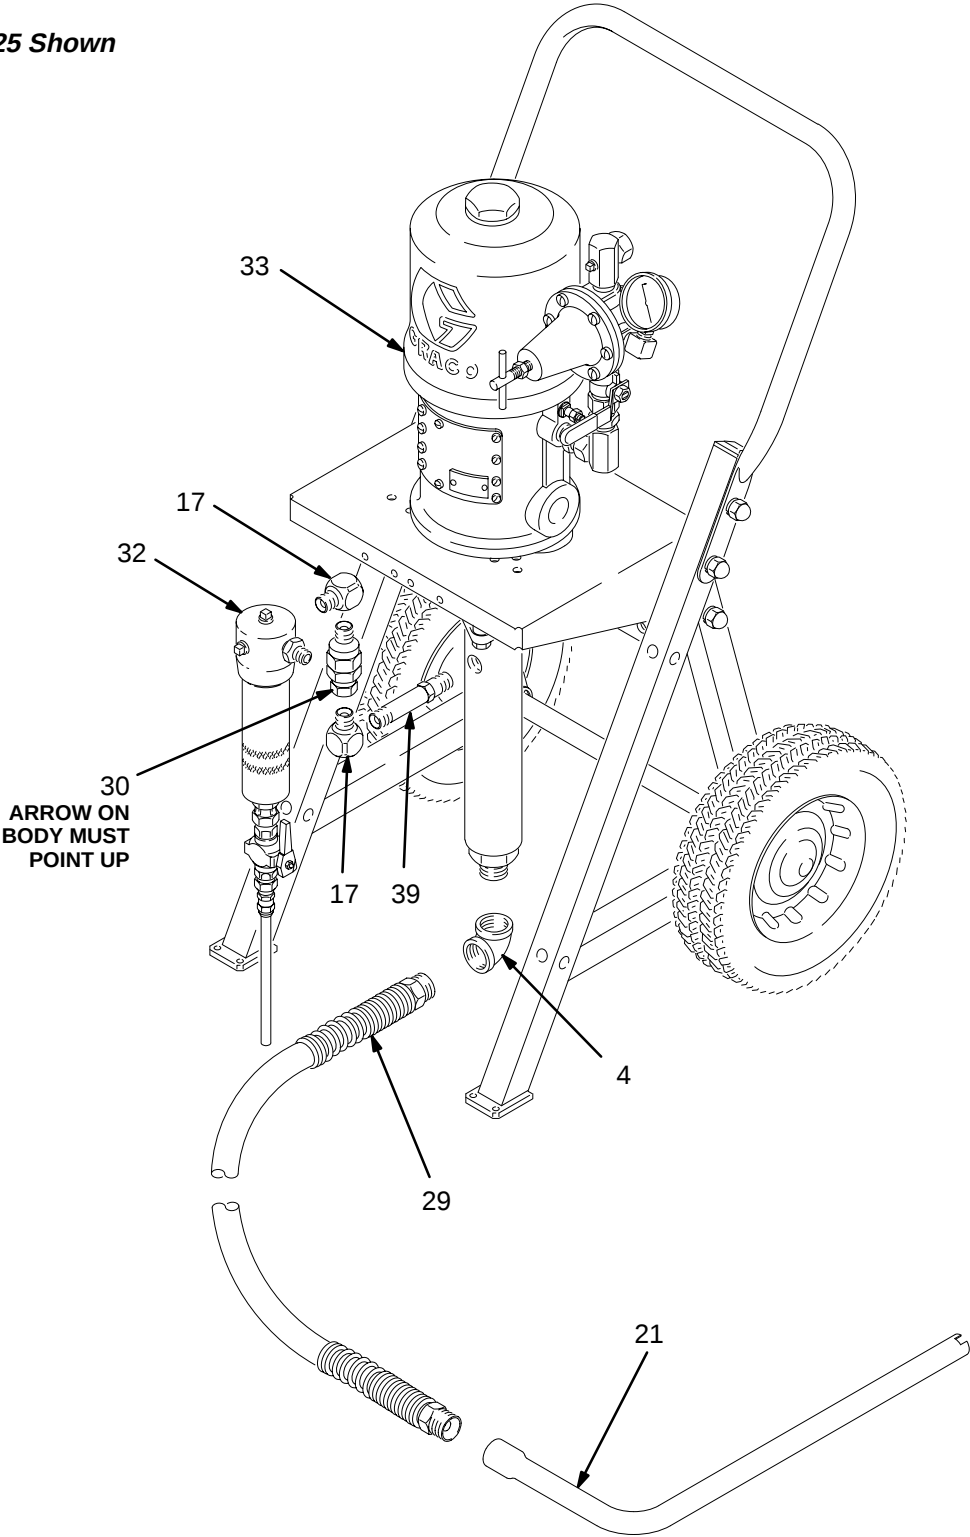

Fig. 2
4. Remove the fluid filter (32) from the pump (33). Remove and discard the two elbows (17), check valve (30), and long 3/8 npt nipple (39) from the pump fluid outlet. See Fig. 2.
1. Unscrew the suction hose (29) from the pump intake elbow (4) and set the hose aside. Remove the elbow (4) from the pump intake and discard. See Fig. 2.